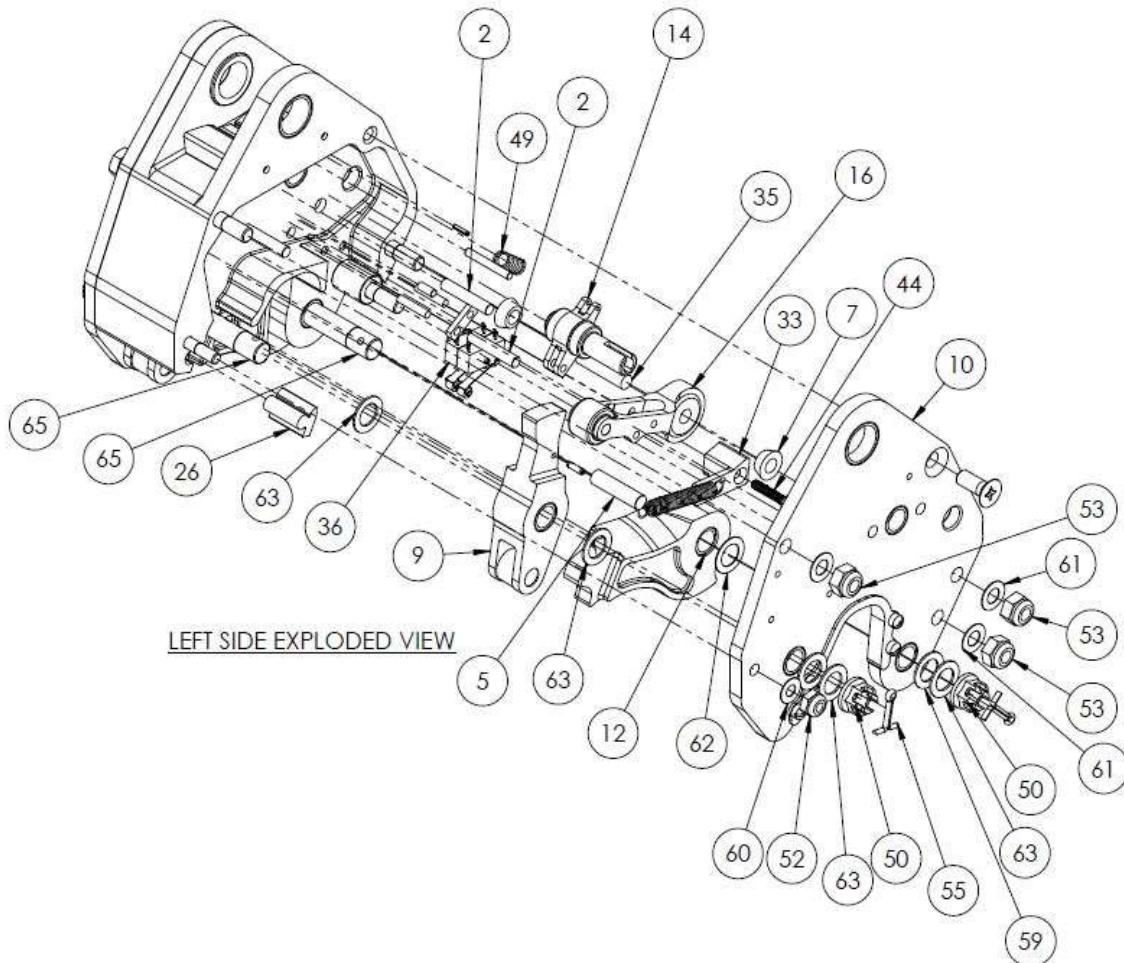

Figure 4.5: Model 350 ADECTM Left Side Exploded View (Internals)
- Begin disassembly of internal mechanisms by removing all nuts, washers, and cotter pins from the left side of the hook as per Figure 4.5 (items 50, 52, 53, 55, 56, 59, and 63)
- Note that the countersunk screws (item 56) are to be removed last, prior to removing the side plate assemblies.
- Remove the Left Hand Side Plate Assembly (item 10) from the hook assembly
- Remove all internal components in the left side of the hook as shown in figure 4.5.
- Remove the Right Hand Side Plate Assembly (item 11) from the hook assembly
- Install all internal components in the left side of the hook as shown in figure 4.5. & 4.10.
- Both Switch Harness leads (Items 36 & 37) are to be assembled and pass through hole in LH side plate assembly. See Figure 4.5, 4.10, & 4.11.
- Install the Left Hand Side Plate Assembly (item 10) onto the hook assembly.
- Finish assembly of internal mechanisms by installing all nuts, washers, and cotter pins from the left side of the hook as per Figure 4.5 (items 50, 52, 53, 55, 56, 59, and 63)